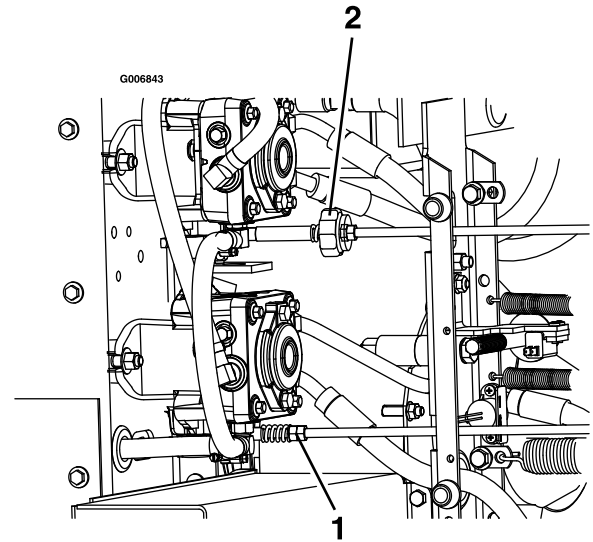

Figure 54
9. To obtain the NEUTRAL position, adjust the left and right pump-control-rod linkages that connect the steering control to the pump-control arms until the wheels stop or creep slightly in reverse (Figure 54).
11. Adjust the right pump linkage by using a wrench to turn the double nuts on the assembly (Figure 54).